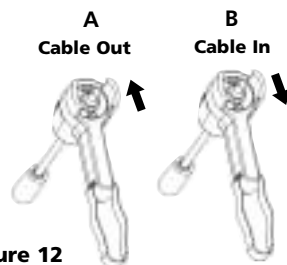
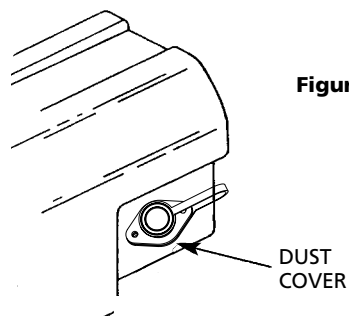
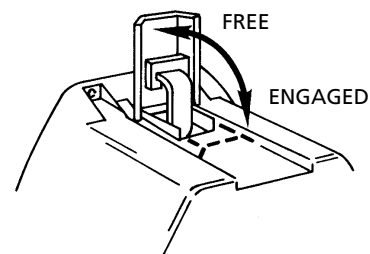

Figure 12
Figure 13
Figure 14
Lift the freespool clutch lever to the "Free" position. Pull several feet of wire rope off the drum. Return the clutch lever back to the "Engaged" position. Plug in the remote pendant control. Switch the slide lever to the "Rope Out" position. Pull the trigger momentarily to check wire rope drum rotation and direction. If the drum rotates in the wrong direction, recheck your wiring. The Hand-held pendant switch activates a solenoid that activates power to the winch motor. One solenoid is for "Rope Out" motor direction and the other is for the "Rope In" motor direction (Fig. 12).
The handheld pendant switch activates a solenoid that activates power to the winch motor. To connect the pendant control, remove the cover on the plug receptacle (Figure 13) and insert the plug end of remote switch. The plug on the pendant control cord is keyed and will fit into the socket only one way. The switch trigger returns to the "Off" position when released. To change direction, move the toggle in the other direction. (Fig.12)
Lift the clutch lever to the "Free" position as shown in Figure 13. If there is a load on the wire rope, the clutch lever may not turn easily. DO NOT FORCE THE CLUTCH LEVER. Release tension on the wire rope by jogging out some of the wire rope. Releasing the clutch and pull out the wire rope and secure to anchor or load. Check that there are at least five (5) turns of wire rope left on the drum. Re-engage the drum by returning the clutch lever to the "Engaged" position (see Figure 14).